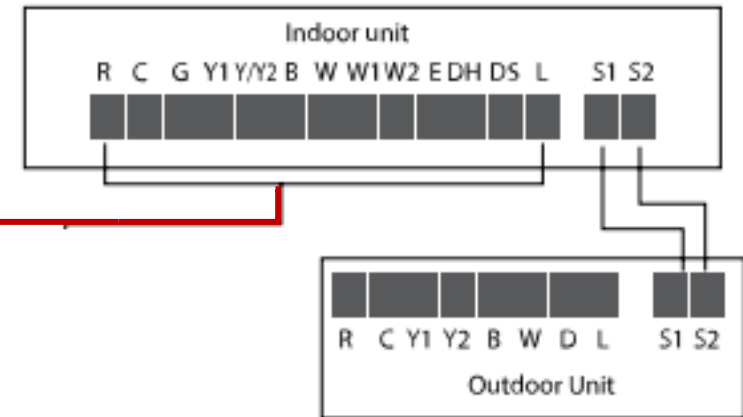

Fig. 23 — Scenario 1
- Use as reference Scenario #1 Wiring method from 45MUAA: Installation Instructions. (Fig 23 – page 24)